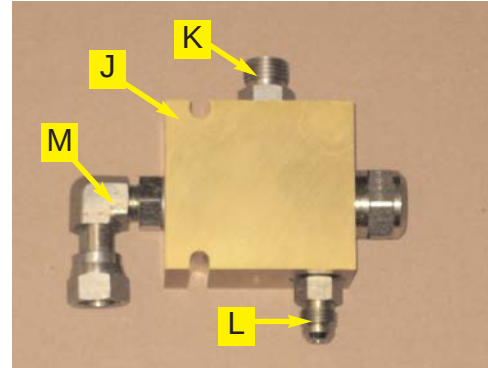

Figure 4a. Assembled load sense valve.
- a. Assemble the dynamic load sense valve (**J**) with adapter fittings (**K**), (**L**) and (**M**). (Figure 4a.)